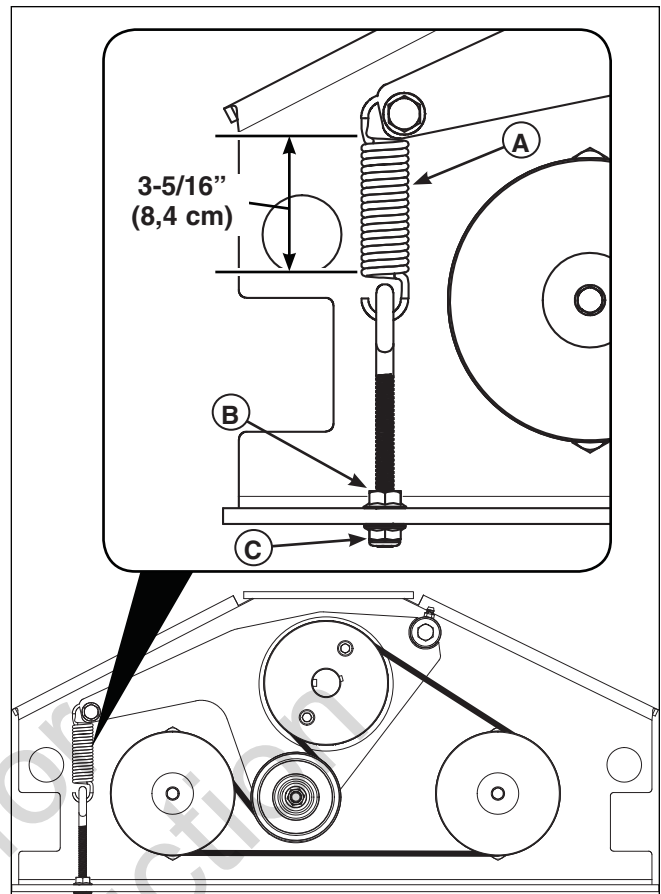

Figure 54. Idler Arm Spring Adjustment
1. Measure the coil length of the idler arm spring (A, Figure 54) as shown in Figure 54. The measurement should equal 3-5/16" (8,4 cm).
2. If the measurement does not equal 3-5/16" (8,4 cm) loosen the jam nut (B) and turn the nylock flange nut (C).